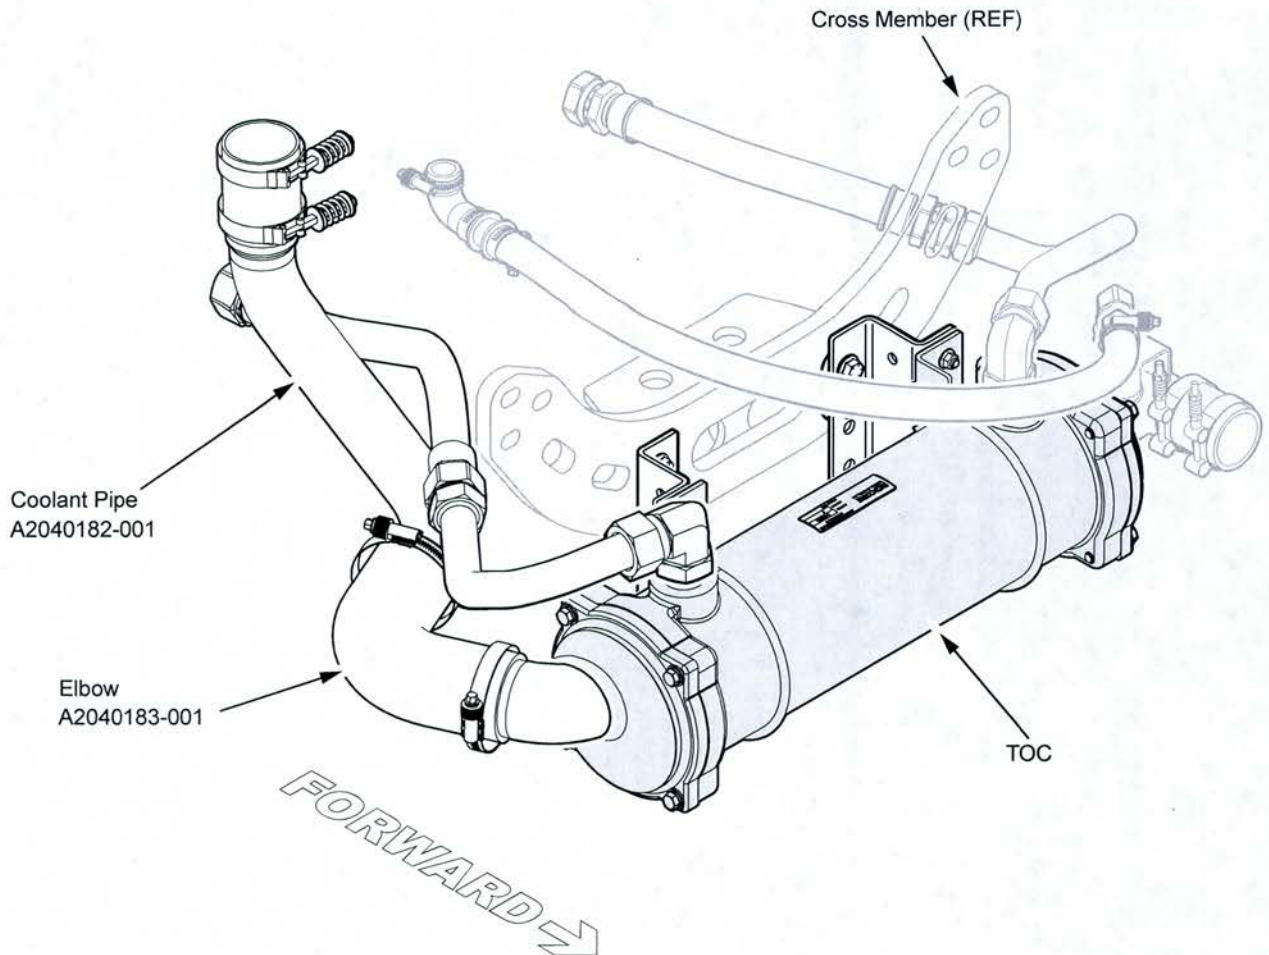

Figure 12
20. On the RH side of the TOC, using 2 hose clamps (GZ220015-006), install the elbow (A2040183-001). Tighten the hose clamps to 60 In-lb (7 N-m) of torque (see Figure 12).
21. Install the coolant pipe (A2040182-001) onto the elbow (see Figure 12).